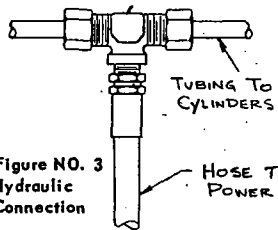

Figure NO. 3
4. Connect Hydraulic Hose from power package to Tee connection on Main Assembly. See Figure NO. 3. **NOTE:** If Cheek Bender is to be used with Speednotch Hydraulic package, remove plug from sixth hole of manifold and screw nipple on end of hose from the main assembly into the manifold.